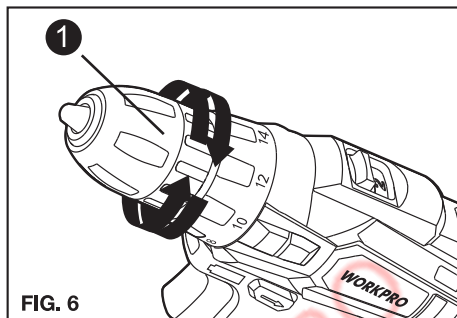

FIG. 6
5. CHUCK ADJUSTMENT (SEE FIG. 6)